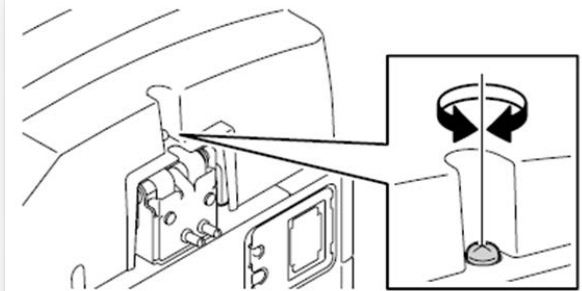

Fig. 3
- A. Adjustment of the rear side gap (The height adjusting screw on the exit side hinge: Fig. 3)